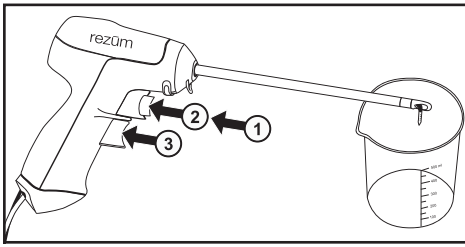

Figure 12. Steps for Activating Vapor Treatment.
1. Prime the Delivery Device using the following steps (Figure 12):
2. Pull in Flush Activation Button (1) Needle Deployment Button (2) and then Vapor Activation (3) (Figure 12).